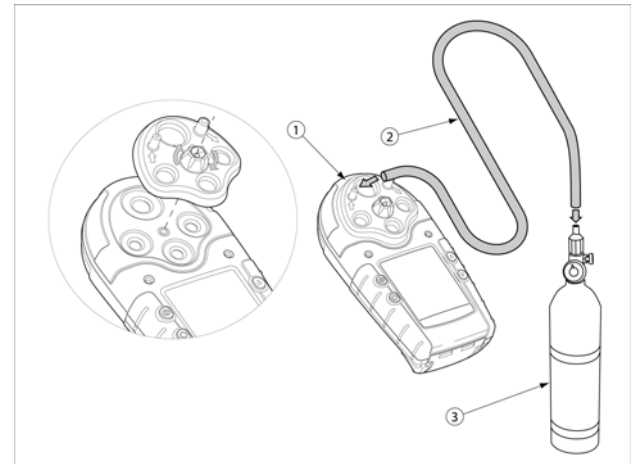

Figure 3. Applying Gas to the Sensors
The calibration hose, which is shipped with the detector, simplifies sensor testing and calibration. Table 10 and Figure 3 show how to use it when applying gas to the sensors.
5. Attach the calibration cap and apply gas to the sensor at a flow rate of 250 to 500 ml/min. (for NH_3 and Cl_2 : 1000 ml/min.). (Refer to Figure 3. Applying Gas to the Sensors.) The display flashes $\text{\textcircled{C}}$ as it spans the sensors.